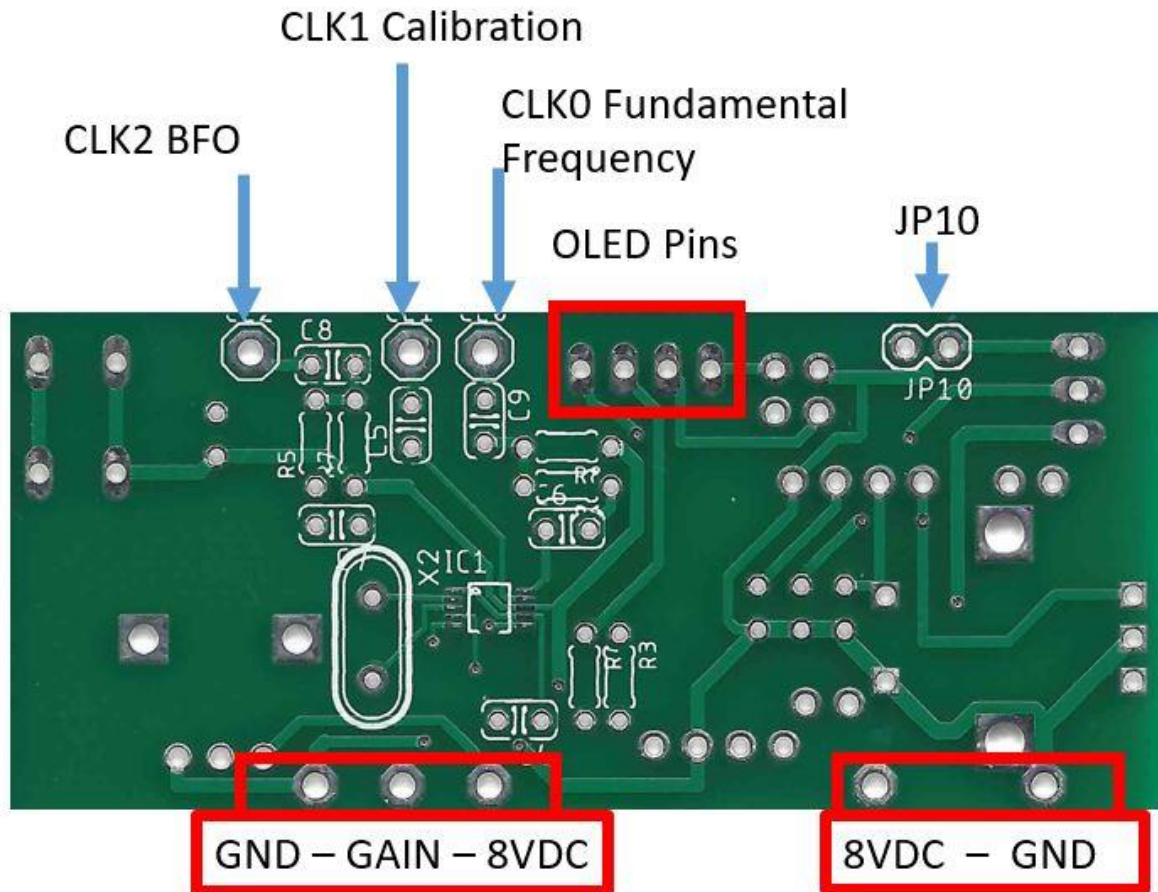

Figure 8
- a. Place the Signal Pin of your Frequency Counter on CLK1 pin located on the back top of the Display PCB as shown in Figure 8.